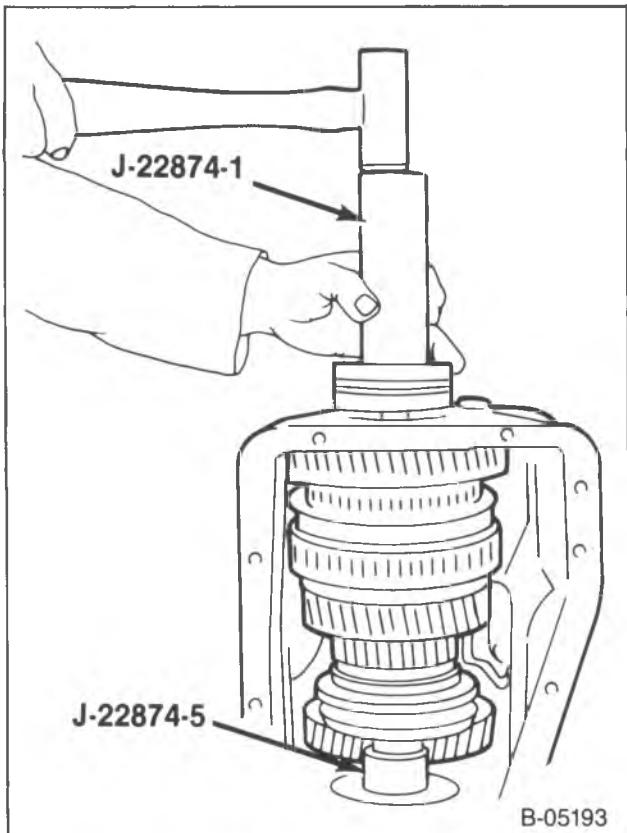

Figure 55—Installing the Mainshaft Rear Bearing
1. Countergear (227) into the case.
2. Reverse idler gear (230) and the shaft.
3. Mainshaft (250) into the case.
- Place J-22874-5 into the front bearing hole, engaged with the mainshaft, (figure 55).
4. Mainshaft rear bearing (224).
- Install a new snap ring (218) onto the bearing.
- Drive the bearing until the snap ring is flush with the case using J-22874-1 (figure 55).